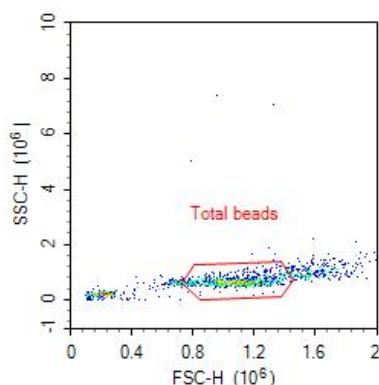

Figure 1
- 2) From the toolbar, click the dot plot sign and a dot plot will appear with FSC-H (forward scatter) for X-axis and SSC-H (side scatter) for Y-axis (Figure 1). FSC-H/SSC-H dot plot is used for "Total beads" gate to separate target beads from debris. Set the FSC-H and SSC-H to linear mode. To change the mode, click on the coordinate axis, then right click the mouse and select property.
- 2) Set the flow cytometer flow rate to low. Run the Setup Bead Cocktail 120 μL . Adjust the gains in the Parameters (the upper left of the window) for FSC-H and SSC-H, so that all bead populations are visible (Figure 1). From the toolbar, click the Elliptical Gate (Other graphics gate can also be used) and use the mouse to drag the populations to the middle of the dot plot. **Pause and restart acquisition frequently during the setup procedure to refresh the bead populations after adjusting settings.**